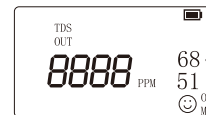

Figure 5
- Press TDS-OUT Button to display the filtered TDS Value. (Figure 5)